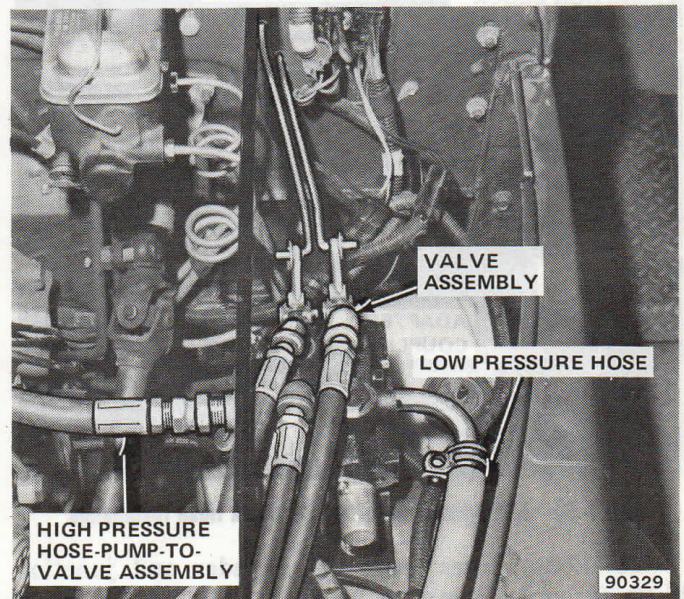

Fig. 1-38 Hose Installation
(11) Install high-pressure hose assembly from coupling on hydraulic pump to inlet connection on valve assembly with nipple, 45-degree elbow, and coupling (fig. 1-38) if high pressure line has not already been installed.